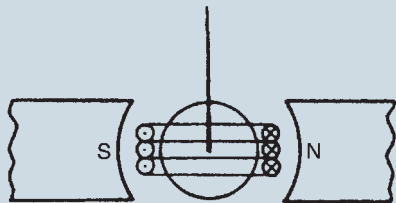

Figure 10.19
- Fig. 10.19 shows a simplified diagram of a section through the coil of a moving-coil instrument. For the direction of current flow shown in the coil determine the direction that the pointer will move.